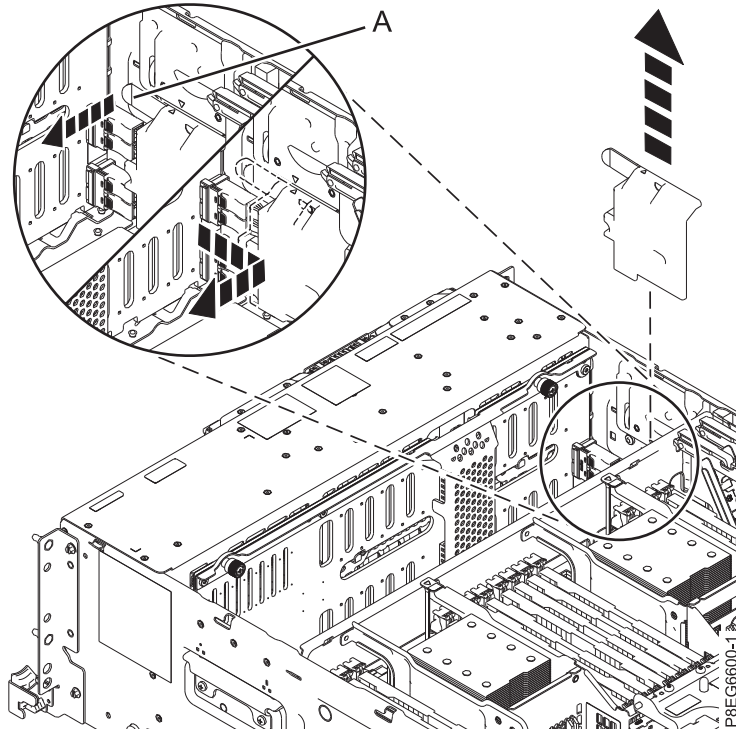

Figure 2. Removing the SAS cable cover
3. Remove the cover from the front SAS cable. Grasp the handle (**A**) and pull away from the side of the system, then slide the cover toward the rear to remove it as shown in Figure 2 on page 5.